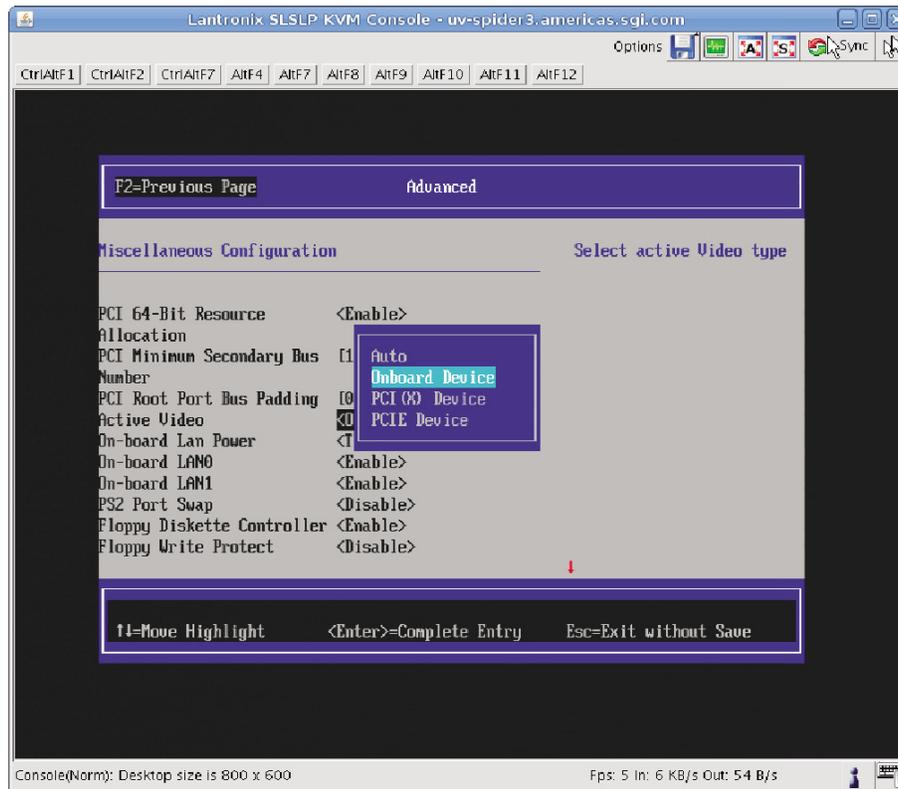

Figure 2-7 Active Video Pop-up Menu
7. From the **Active Video** pop-up menu, select **Onboard Device**, as show in Figure 2-7 on page 34.